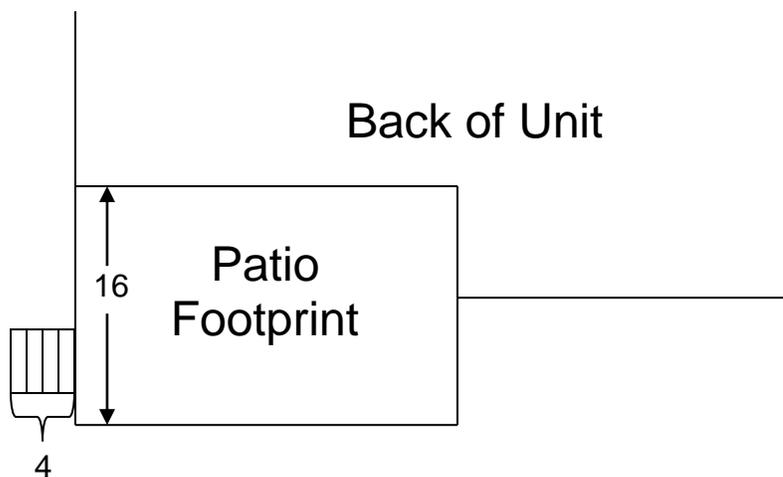

Figure 1
1. Stairs/steps are allowed on the garage side of the deck or patio as long as they do not fall more than 4 feet beyond the permitted footprint width. (Figure 1)